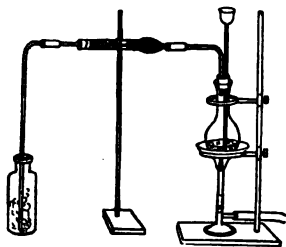

Fig. 44.
Supplies : apparatus as in Fig. 44,  $\text{MnO}_2$ ,  $\text{HCl}$ .
1. Arrange an apparatus as in Fig. 44. With a flask (of 200 or 250cc capacity) connect a small dryer (8 or 10cm long) filled with calcium chlorid, and lead a tube from this to the bottom of an open empty rec.